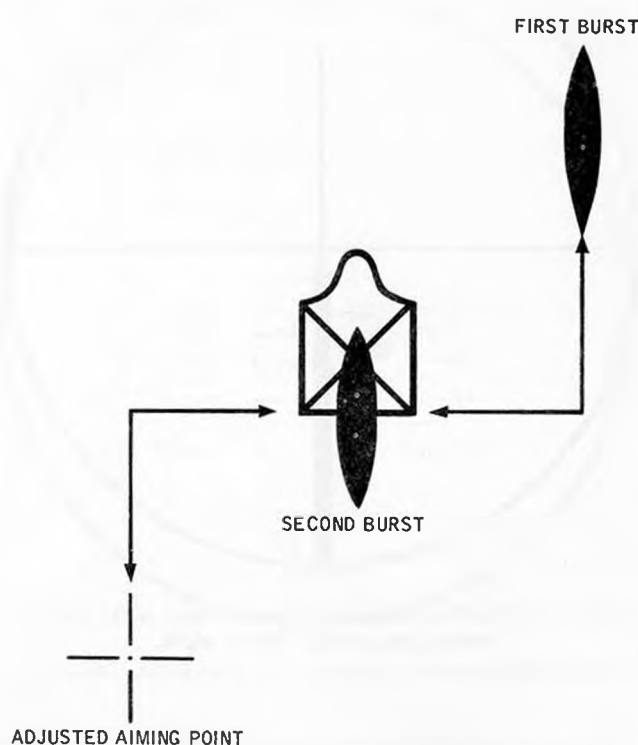

Figure 31. Adjusted aiming point.
b. If the gunner misses the target with his initial burst, he must select a new aiming point on the ground, i.e., the same distance from the target as the center of impact of the initial burst but in the opposite direction, and fire a second burst (fig 31).